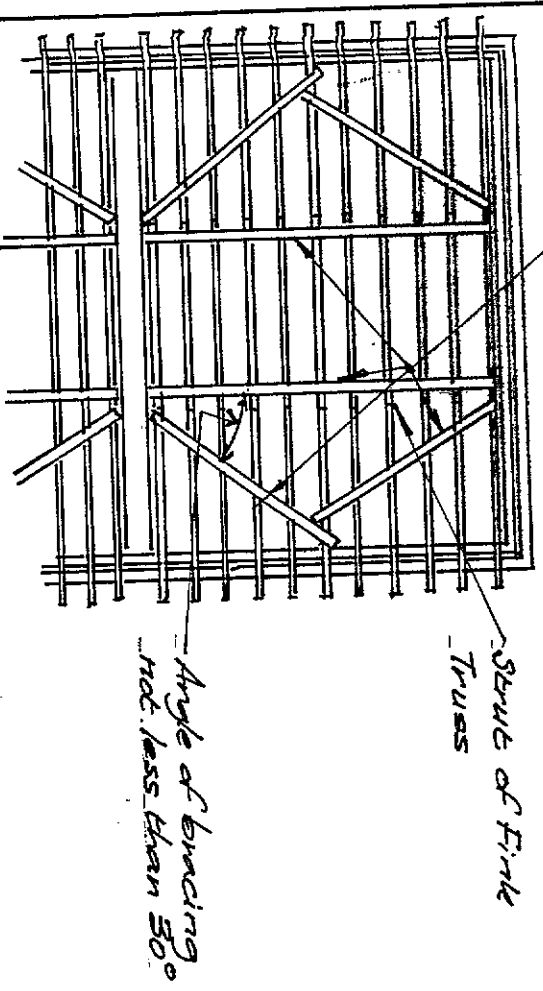

FIGURE 2
- Provide, when the distance between centres of separating cross walls is not more than 1.2 X trussed rafter span, at least two 100 X 25mm diagonal braces, twice nailed to every ceiling tie in every roof (or section of roof between cross walls) as shown in Figure 2; where wall spacing exceeds 1.2 X span, provide additional (at least four) such diagonal braces in 'W' formation on each side, at an angle of 35 degrees to 40 degrees.